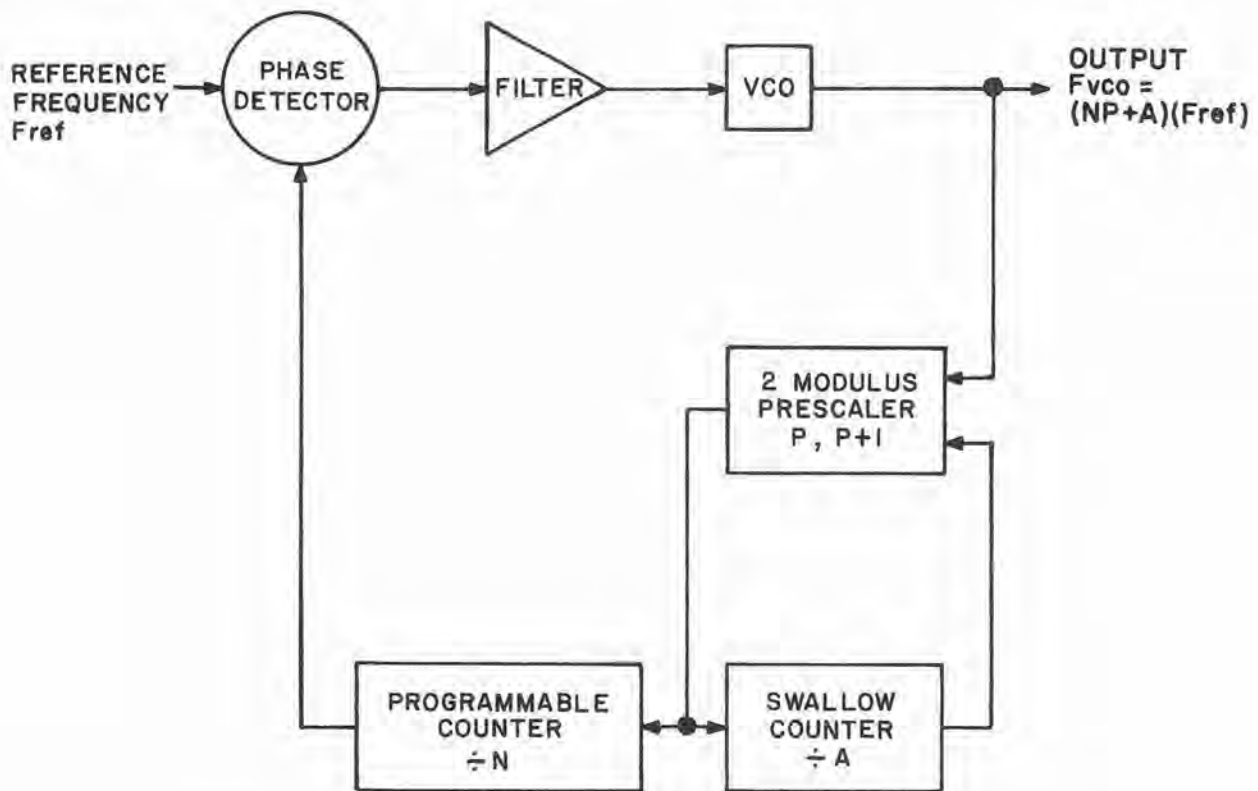

Figure 3-7. Two-Modulus Prescaling in the Phase Lock Loop
A variation of the basic phase lock loop, shown in Figure 3-7, is utilized in the 1st and 2nd LO Synthesizers. The divider portion consists of a two modulus prescaler and two programmable counters. The two-modulus (divider) prescaler accepts the output from the VCO and divides it by one of two numbers (P or P+1). The prescaler in the 1st LO is a divide-by-50/51 counter and the 2nd LO prescaler is a divide-by-100/101 counter. The swallow counter controls the number of times the prescaler divides by P+1. The programmable counter counts the number of pulses from the prescaler. Totally, these three components provide for coarse (N) and fine (A) tuning of the VCO.